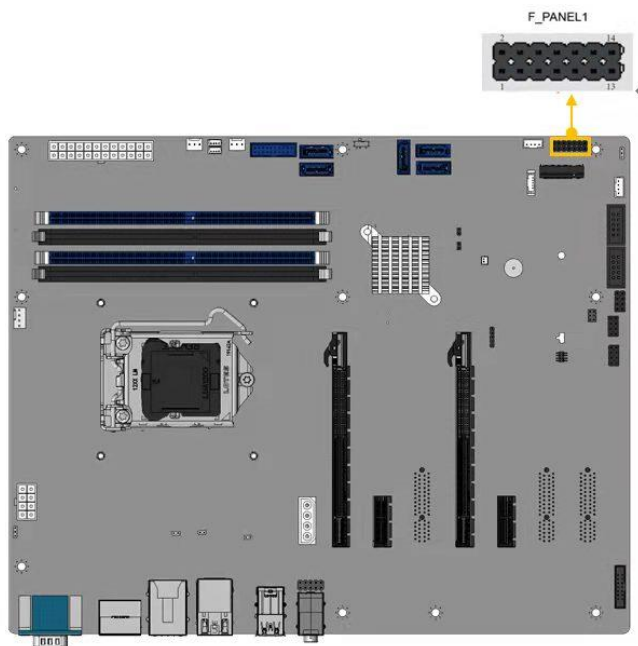

Figure 3-14: Front Panel Connector Location
- CN Location: See Figure 3-14